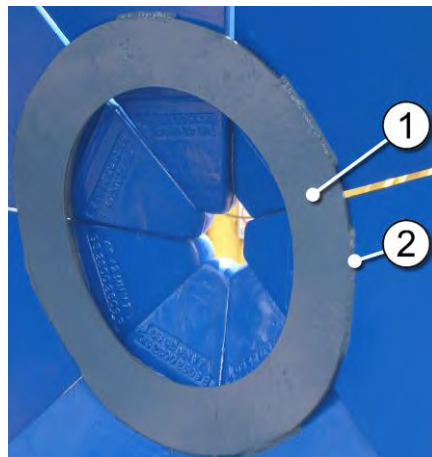
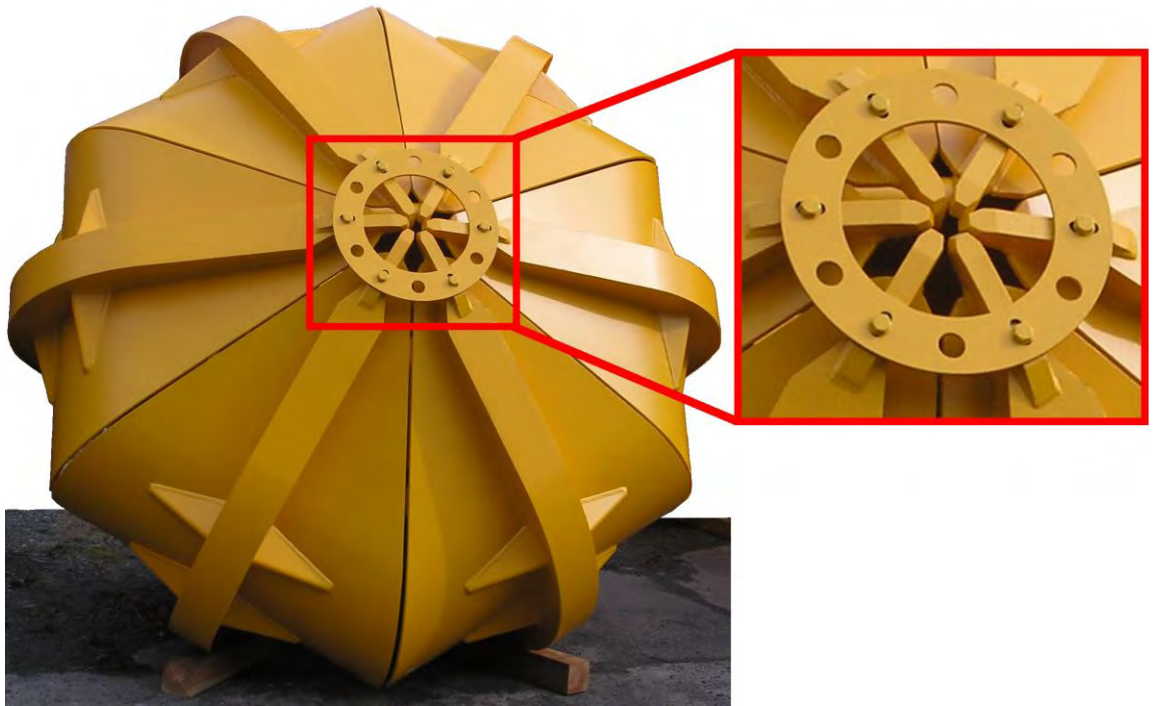

Figure 3.2.1a
Figure 3.2.1b Design version: Transport fixation, outside
9. Remove the transport fixations (see Fig. 3.2.1a and Fig. 3.2.1b) of the shells, if existing.